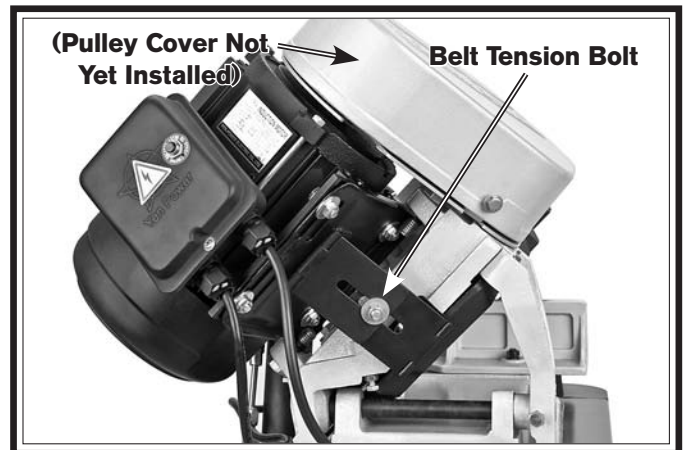

Figure 16. Belt tension bolt location.
12. Loosen the belt tension bolt shown in **Figure 16**.